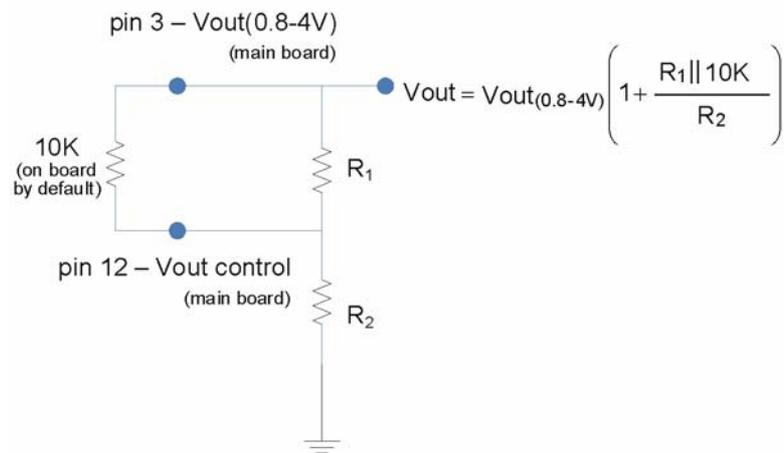

Figure 7.2 Vout value shifted up (in relation to 0.8—4V). The full scale value at maximum 5V.
- (1) Pins 5 and 7 on the first board are RX and TX respectively in TTL levels. Together with pin 9, RTS, one has the full control should the digital communication is needed. The communication protocol implemented is standard ModBUS.
- (2) LED output to be used for driving an external LED giving information about the device status. Maximum 10mA current drawn should be considered.
- (3) By default the three alarm levels are set as 10/20/30% Full Scale respectively for ALARM 1/2/3
- (4) By default the Vout range is 0.8-4V. The range may be shifted from 0.4-3.6V to 1.8-5V by means of a resistor net which should be connected as in Figures 7.2, 7.3 that follow.